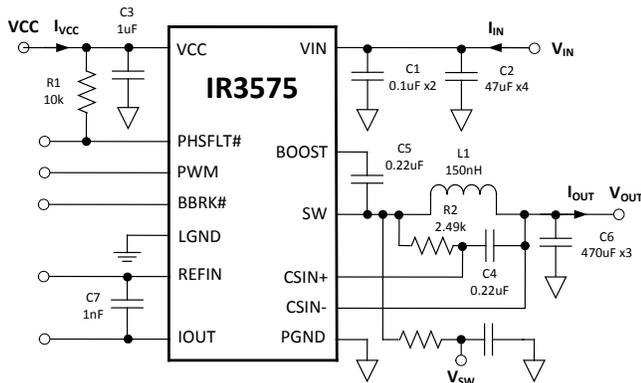

Figure 32: IR3575 Power Loss Measurement
Circuit of Figure 32, $V_{IN}=12V$, $V_{OUT}=1.2V$, $f_{SW} = 400kHz$, $L=150nH$ (0.29mΩ), $VCC=7V$, $T_{AMBIENT} = 25^{\circ}C$, no heat sink, no air flow, 8-layer PCB board of 3.7" (L) x 2.6" (W), no PWM controller loss, no inductor loss, unless specified otherwise.
The single-phase IR3575 efficiency and power loss measurement circuit is shown in Figure 32.